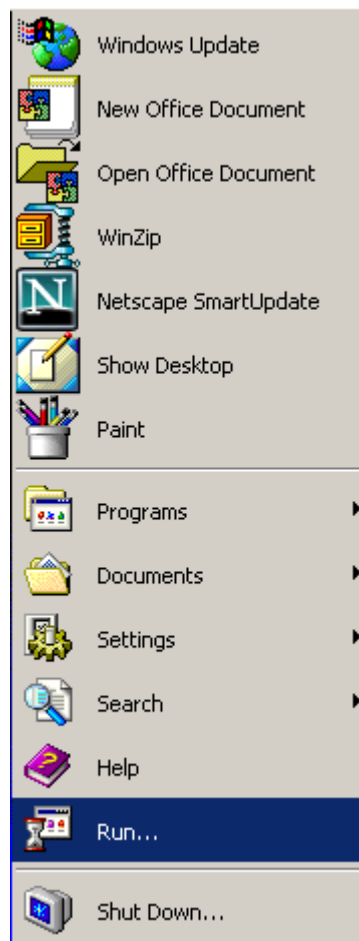

Figure 1.5 Start Menu
3. Click the **Start** button, then click the **Run** command (see Figure 1.5).